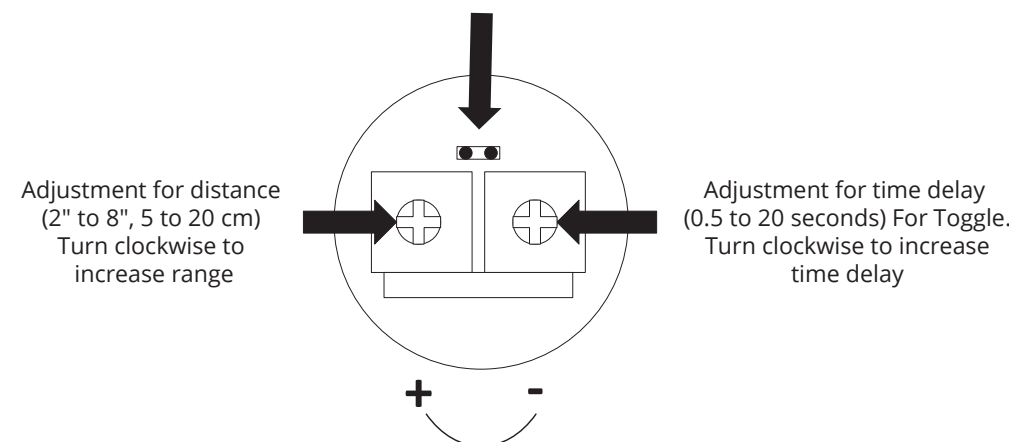

Figure 5.1 Configuration
**Range of Detection and Output Duration (Figure 5.1)**